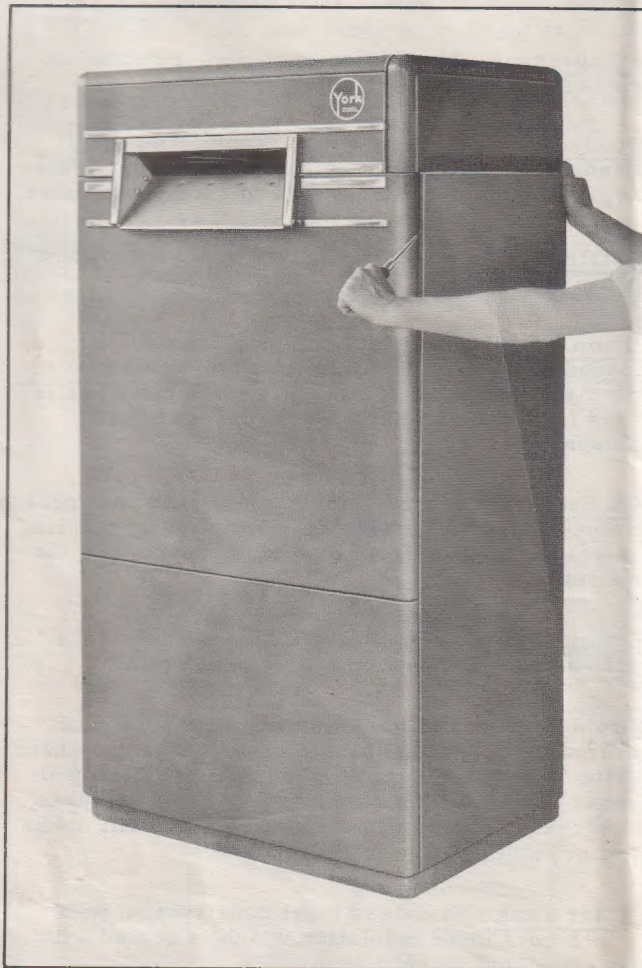

Fig. 2
- (a) Use a screw driver, as shown in Fig. 2, and carefully remove the side panels. After the